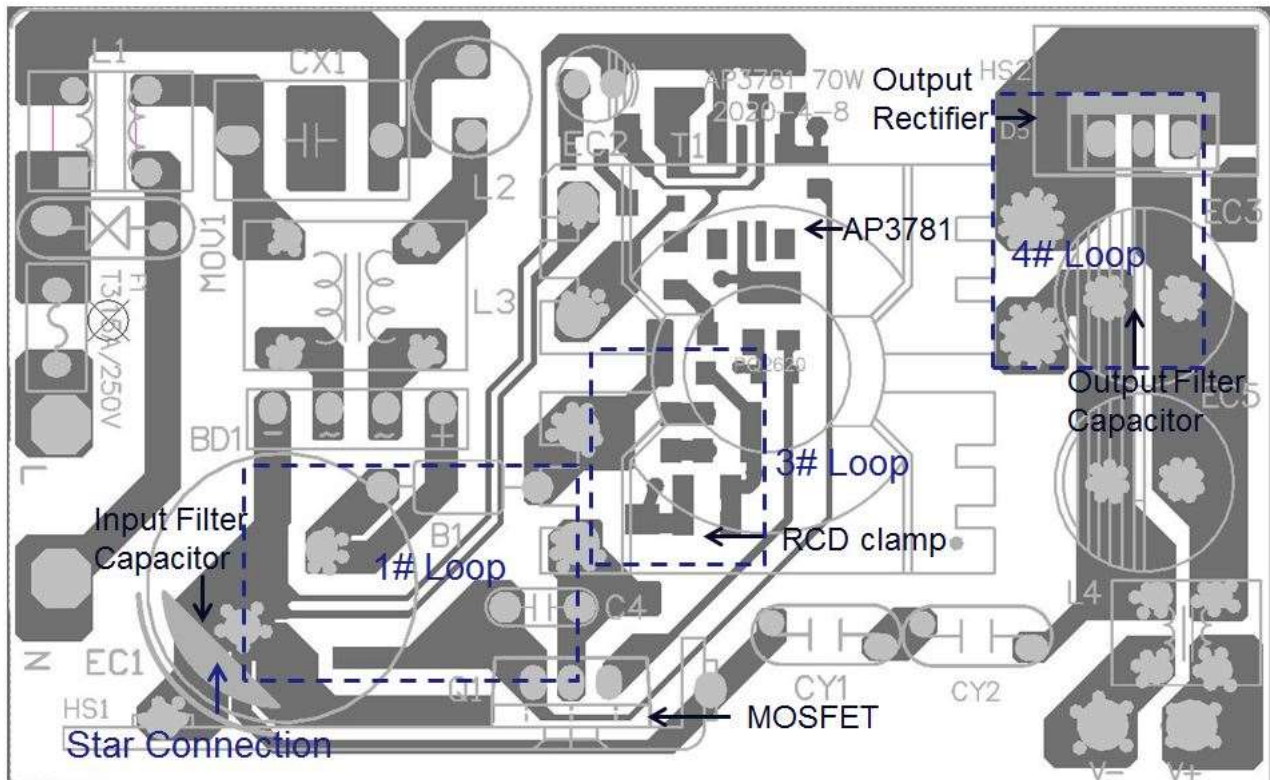

Figure6: High Current Loop & Star Connection
As shown in Figure 6, there are four major high frequency current loops:
2. A so-called “Star” connection is highly recommended for primary GND. As shown in Figure 6, the ground of MOSFET, auxiliary winding, Y-cap and control IC are separated and finally connected together on bulk capacitor ground. The width of these grounds should be kept as large as possible. The primary side of Y-cap could also be connected to the high voltage pin